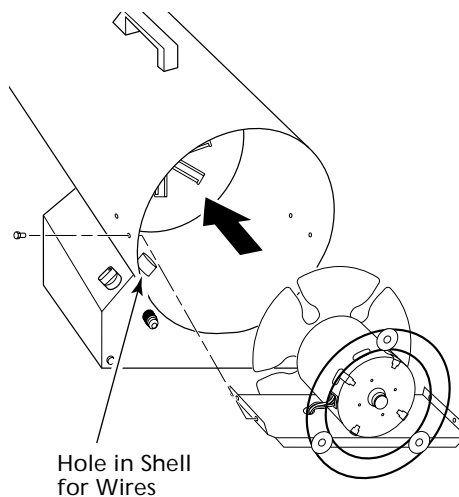

Figure 8 - Replacing Motor, Motor Mount, and Fan Guard into Heater
14. Carefully route motor wires through hole in shell (See Figure 8). Place motor, motor mount, and fan guard into rear of heater shell.